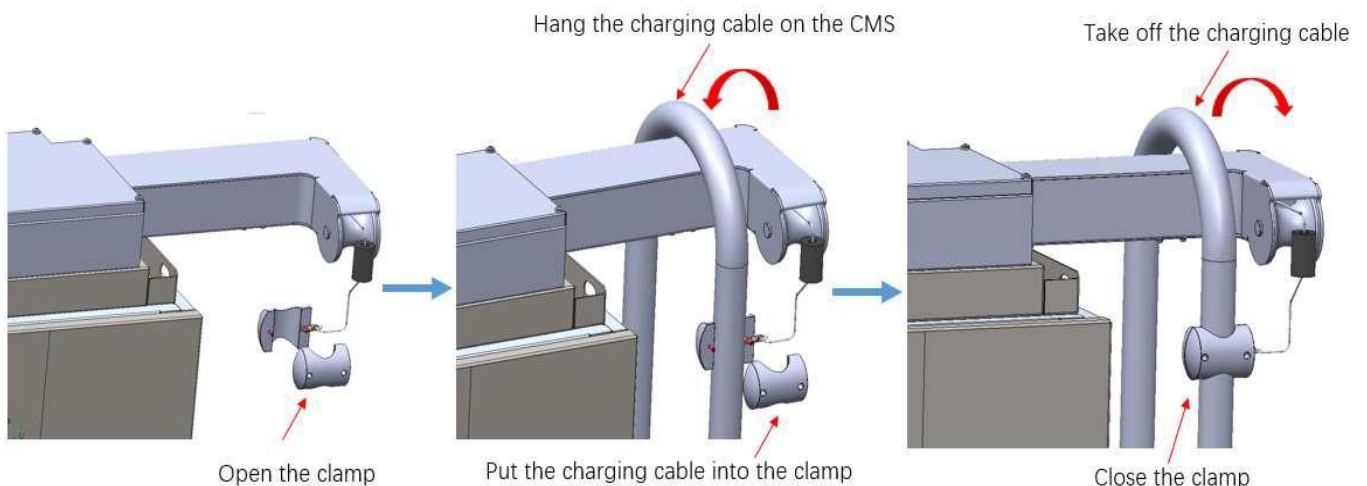

Figure 26 Fix the charging cable
(18) Fix the charging cable on the CMS through the cable clamp. First open the clamp, then hang the charging cable on the CMS and put it in the clamp, finally close the clamp, shown in Figure 26. The fixed point of charging cable is 2.5m from the outlet gland.